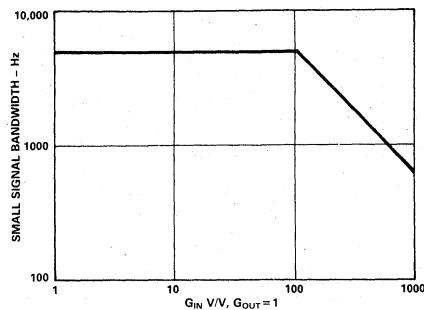

Figure 11. Typical AD295 - Small Signal Bandwidth vs. Gain
**Small Signal Bandwidth vs. Gain:** Figure 11 illustrates the small signal bandwidth vs. gain for the AD295. The small signal response remains at 4.5kHz for gain up to 100V/V.